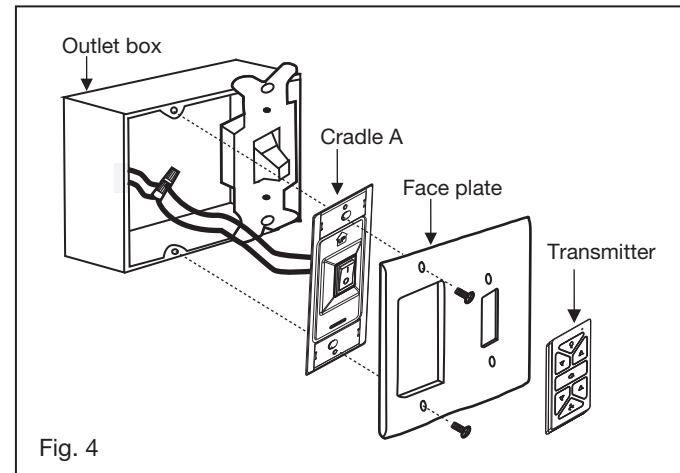

Fig. 4
**NOTE:** The tab opposite hanger bracket opening should fit in slot on ball. (Fig. 4)
- 2 Connect the black lead wires from the switch in the cradle A to the black wires in the switch box. Hot input wire to one of the cradle switch leads. Power lead to the fan is connected to the remaining switch lead. (Fig. 4)
An UPWARD airflow moves warmer air off the ceiling area as shown in Figure 4. This allows you to set your heating unit on a cooler setting without affecting your comfort.